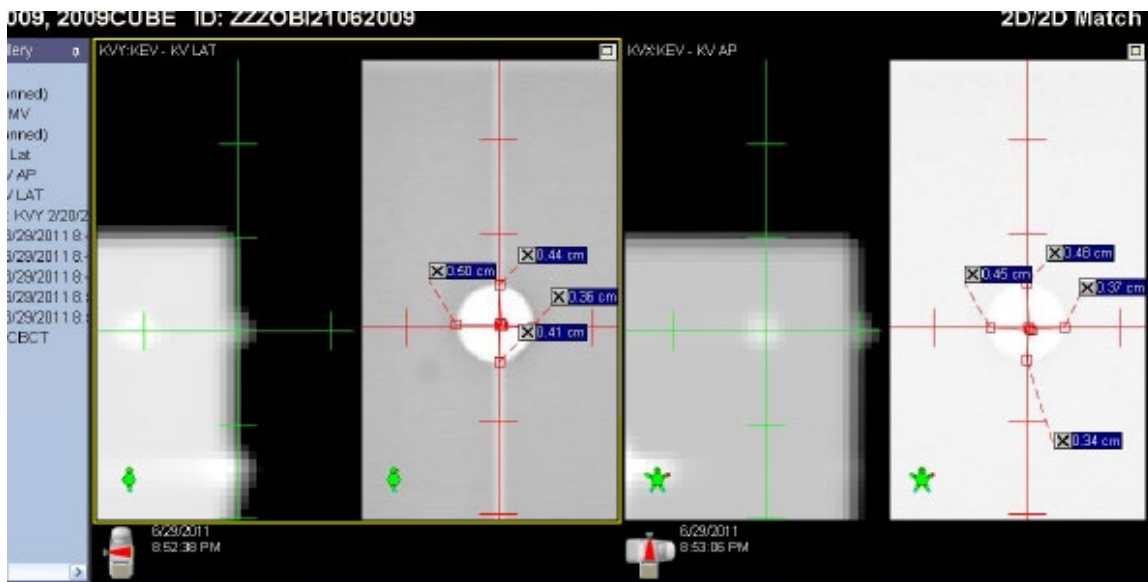

Figure 2: Screen image of residual difference measurements.
4. Once the phantom is aligned with the imaging isocenter, orthogonal kV images (AP and left Lat) should be taken of the phantom. Using the measurement tools in the imaging software, measure, as best as you can, the residual difference between the imaging isocenter and the edge of the ball bearing in each of the four directions and **record the values on the data sheets included with these instructions.** This residual difference measurement can be difficult due to the fuzziness of the ball bearing edge. You can try to adjust the contrast/ resolution/ window level to identify the edge better. Be sure to capture the correct orientation/direction of the residual difference. Take screen captures or pictures of the screen to document the residual differences. An example is shown in Fig 2.